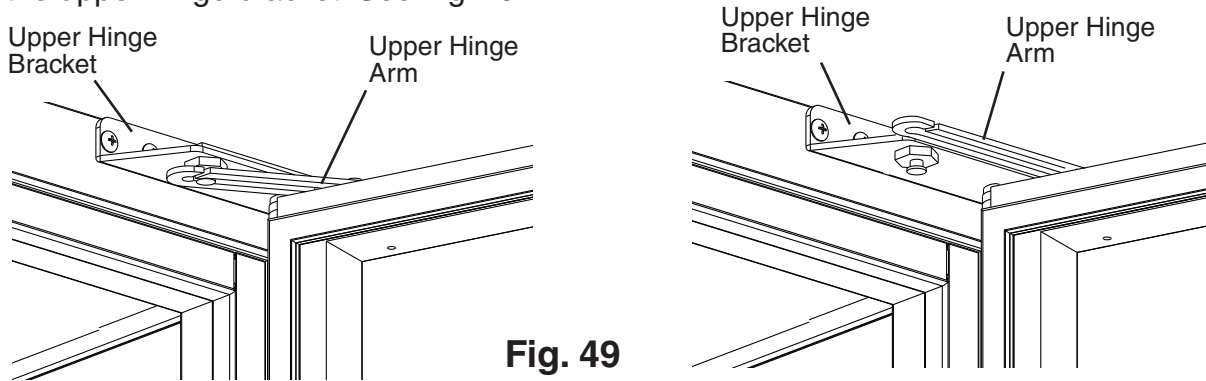

Fig. 49
- 7) Open the upper door. Using a flat head screwdriver, unhinge the upper hinge arm from the upper hinge bracket. See Fig. 49.